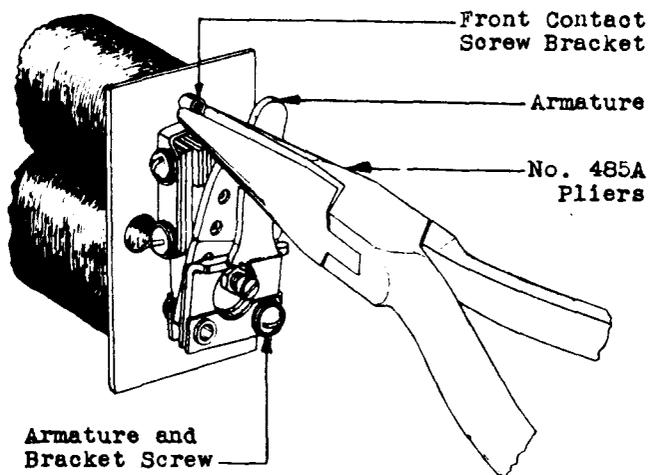

Fig. 5 - Adjusting the Front Contact Screw Bracket
- (1) If the front contact (or stop) screw is not sufficiently tight in its bracket to hold its adjusted position proceed as follows:
- (2) Remove the left armature and bracket screw and loosen the right armature and bracket screw using the KS-6854 screwdriver. Then push the armature to the right with the No. 72 wrench until the wrench can be applied to the front contact (or stop) screw and remove the screw.
- (3) Force the threaded portion of the front contact screw bracket closer together with the No. 485A as shown in Fig. 5.
- (4) Replace the front contact (or stop) screw in the front contact screw bracket with the No. 72 wrench and reassemble the armature and bracket by replacing the left armature and bracket screw and tightening the right armature and bracket screw. At the same time align the contacts in accordance with procedure 3.04.